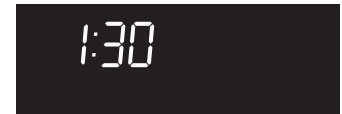

Fig.8
2. Once the oven has cooled down for approximately 1 HOUR and the "DOOR LOCKED" icon is no longer displayed, the oven door can then be opened (Fig. 8).